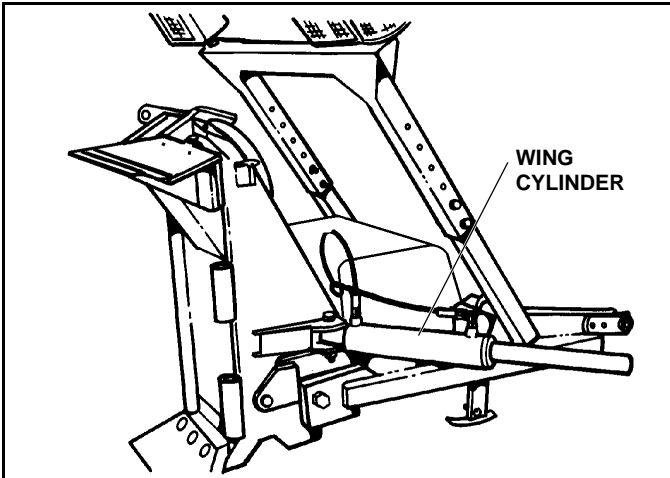

Figure 1-3
3. Swing the wing cylinders out to the side so they will be out of the way for installing the wings. (See Figure 1-3).